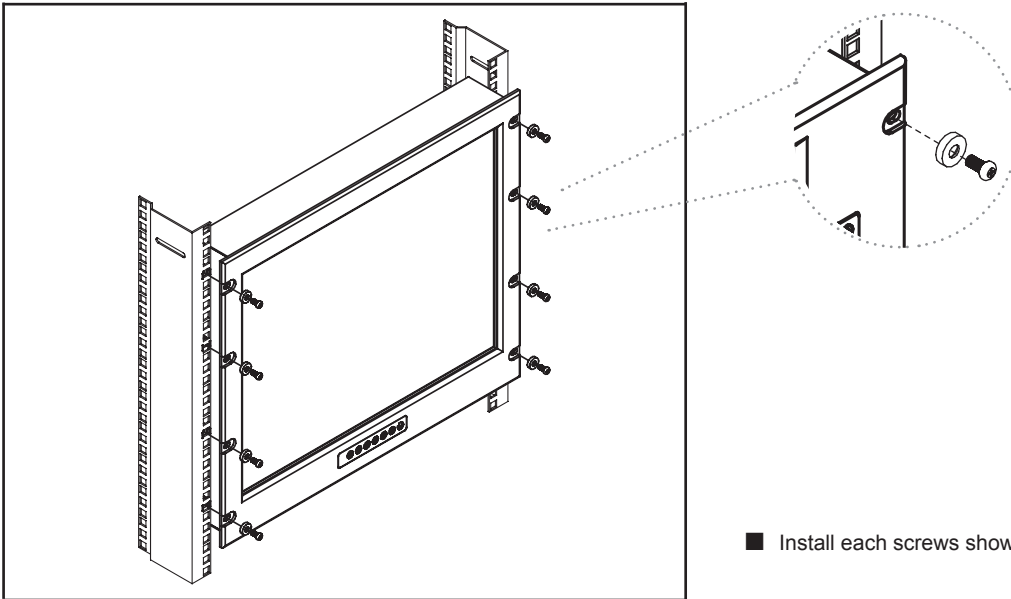

Figure 3.
■ Install each screws shown in **Figure 3**.